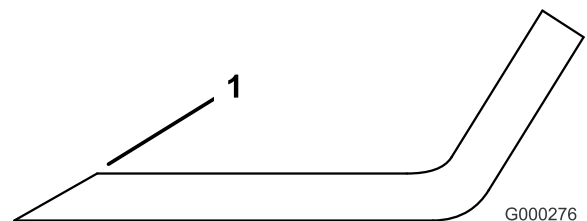

Figure 75
1. Use a file to sharpen the cutting edge at both ends of the blade (**Figure 75**).